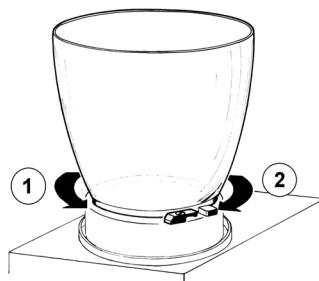

figure 2
4 Remove the empty bowl by rotating it counterclockwise (see figure 2).
- 2 Fit bowl gasket to the bowl around its seat. Place the bowl on the unit and then push it down all the way. Fix the bowl by rotating (2) it clockwise. Wet the gasket for ease of insertion (see figure 2).